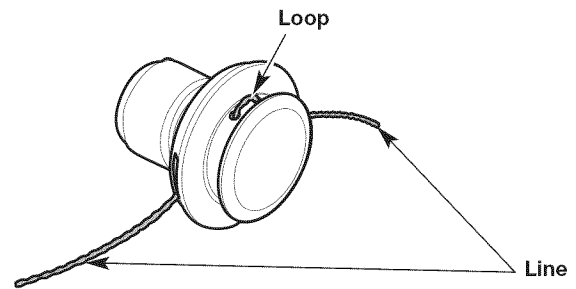

Fig. 17
4. Pull the ends of the line until the line is tight against the cutting head. Make sure the ends of the line are of equal length (Fig. 17). If one end is longer than the other, push the longer end back through the cutting head partway and pull the shorter end out. If necessary, repeat this process until both ends are of equal length.
5. Press the exposed loop of trimming line until it is tight against the cutting head (Fig. 17).